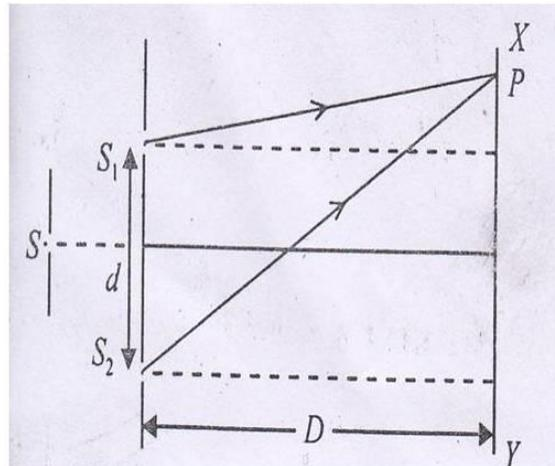

Fig. 1.2 Schematic representation of Interference due to two slits
- ii. The distance between the two coherent sources and the screen (D) must be large.
- iv. To view interference fringes, the background must be dark as shown in Fig 1.2.